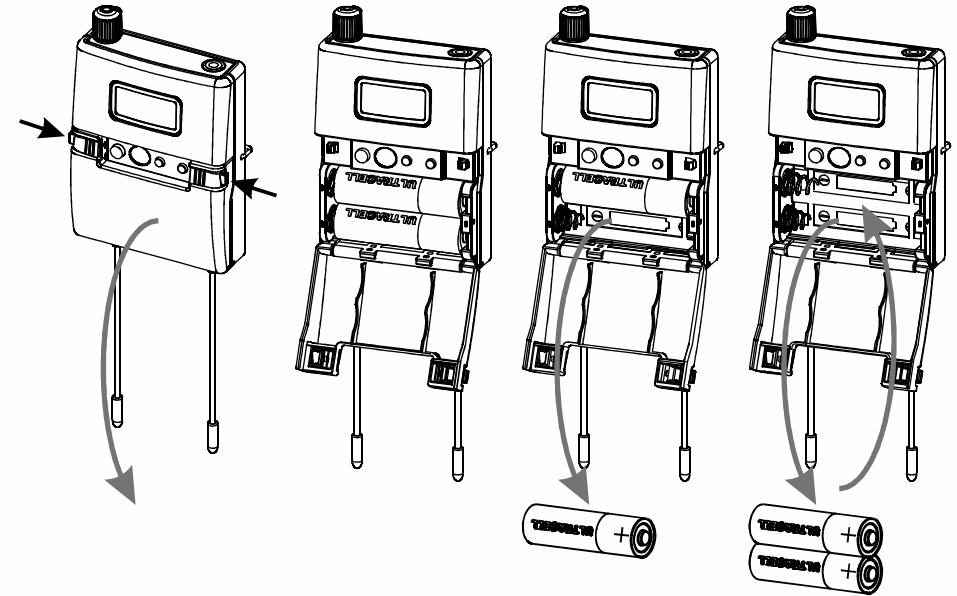

Fig. 3
2. Battery Insertion, Fig. 3:
- (A) Open by pressing the latches on both sides of the battery compartment cover ❾ and pulling.
- (B) Insert the batteries according to its correct polarity.
- (C) Notes: Be sure to power off when the receiver is not used. Remove the batteries when is not used for a long time.